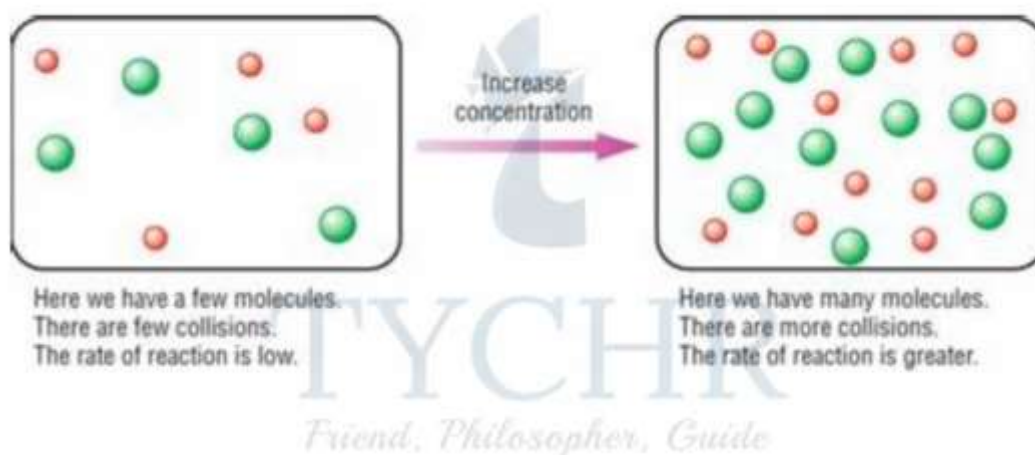

Figure 12: Effect of concentration on collision frequency.
- This is because as concentration increases, the frequency of collisions between reactant particles increases, as shown in Figure 12. The frequency of successful collisions therefore increases too.